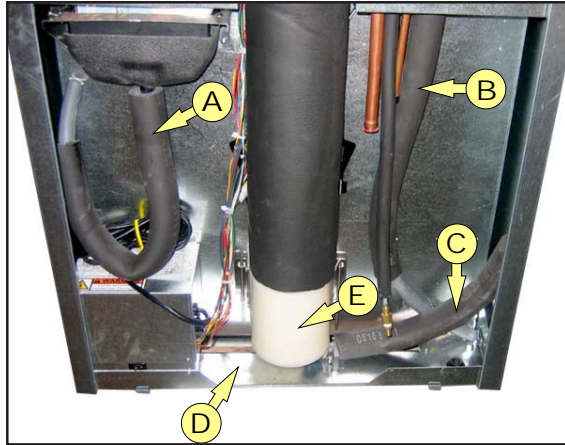
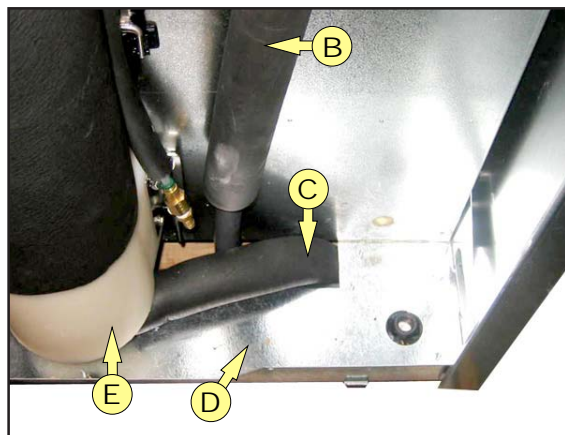

FIGURE 1
FIGURE 2
2. Remove right side lower panel to access the drain pan (A), icemaker (B) and auger (C) drains. (see figure 1)
3. Route drain pan drain (A) through cut-out in baseplate (D) and follow all national plumbing codes.
4. Route icemaker drain (B) through cut-out in baseplate (D) and follow all national plumbing codes. (see figure 2)
5. Pull the insulation covering the auger drain (C) over the clamp and fittings on the auger base (E).
6. Route auger drain (C) through cut-out in baseplate (D) and follow all national plumbing codes.